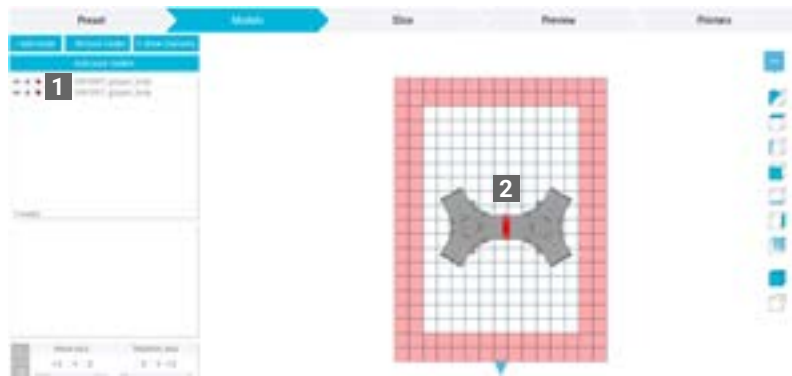

Fig 2.26 Collision of models.
It may happen that you won't see the overlap of the models. You can check this easily. Just select the Show Collisions button. If the models overlap, collision icons (1) will appear next to the model names and the area where the contact occurs will be indicated in red (2) (Fig 2.26).